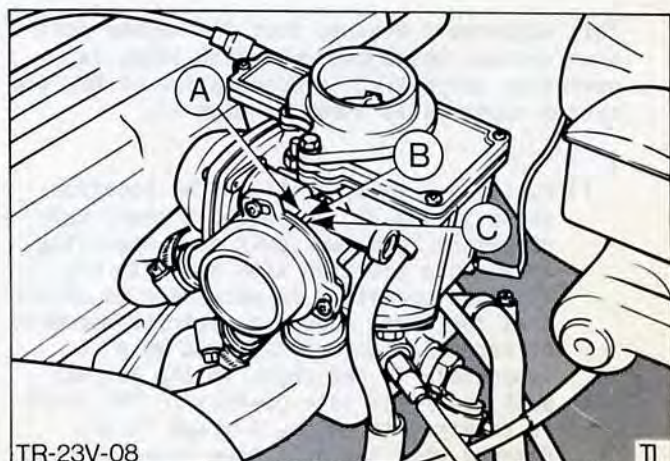

Fig.74. Choke housing alignment.
8. Turn choke housing to line up with correct choke alignment mark and secure the three screws. Fig.74, shows housing set up on index.